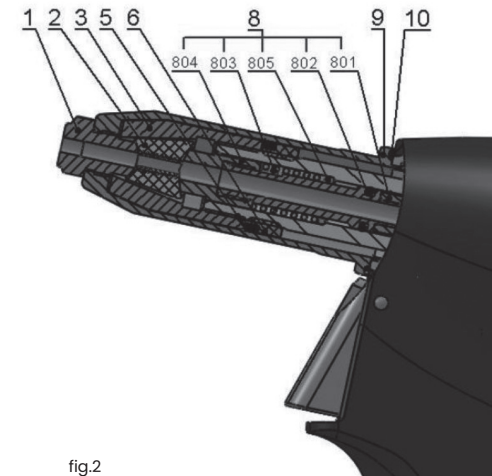
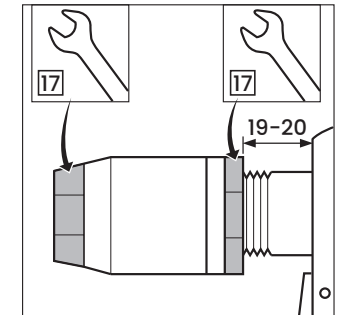

fig.2
fig.3
Disconnect the tool from the source of compressed air, unscrew the front nozzle /fig.2 - pos.9/ by means of a spanner no.23, set the spanner no.17 [15] onto the clamping sleeve /fig.2 - pos.3/, set the spanner no.17 on the backnut /fig.2 - pos.6/ and loosen. Unscrew the clamping sleeve, replace the jaws /fig.2 - pos.2/ and
conduit-suction complete /fig.2 - pos.8/. All used threads are clockwise.
1. Jaws /fig.2 - pos.2/ - if worn or damaged, replace it, if dirty, clean it with a wire brush.
2. Nosepiece /fig.2 - pos.1/ - for wear of functional surfaces of the taper.
3. Conduit-suction complete /fig.2 - pos.8/ - inspect parts of the assembly, jaw pusher /fig.2 - pos.804/, spring /fig.2 - pos.803/, washer of spring /fig.2 - pos.805/, O - ring /fig.2 - pos.802/ and conduit-suction /fig.2 - pos.801/ - if damaged or worn, replace it with a new one.
4. Front nozzle /fig.2 - pos.9/ - check for damage of the internal surface [Ø 20] .
5. Scraper ring /fig.2 - pos.5/ - if damaged or worn, replace it with a new one.
Mount the parts [see par. disassembly] in a reverse order. On the outer surface of the jaws /fig.2 - pos.2/ apply a drop of lubricating oil [we recommend hydraulic oil HLP ISO VG 32], apply thin layer of plastic lubricant MOGUL LV 2-3 to the conduit-suction complete /fig.2 - pos.8/. Basic set-up of the jaws is performed as in fig.3.